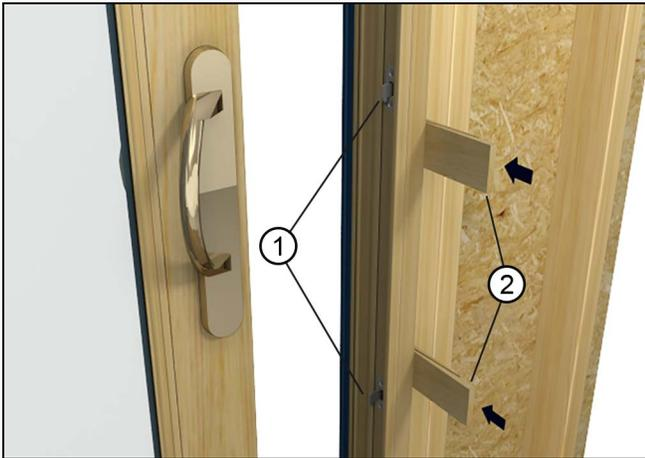

Figure 16
8. For Sliding Doors: Place shims at or near keepers or jamb strike. Place additional shims a maximum of 12" (305) apart. Be careful not to bow the jambs. See Figure 16.